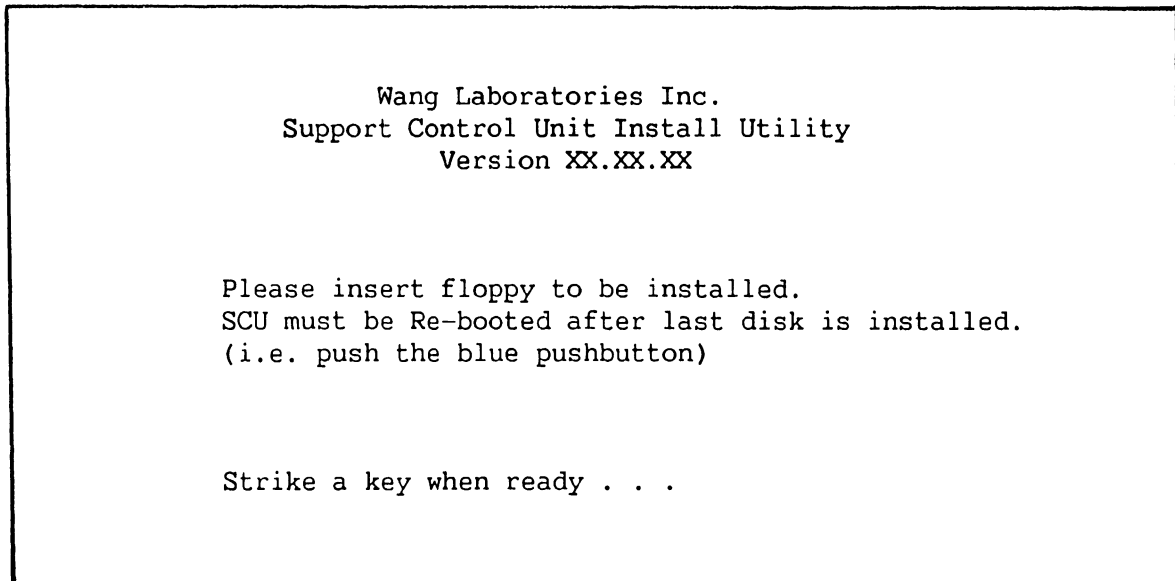

Figure 9-19. SCU Install Utility Screen
9. Select the Install SCU Software option from the Support Control Unit Install Utility menu and press EXEC. The "Setting up Winchester" message appears, followed by the SCU Install Utility screen, figure 9-19.
13. Remove the diskette from the drive and press any key. The SCU Install Utility screen, figure 9-19, reappears. Insert another diskette and press any key. Repeat this step until the files from all the diskettes have been copied.